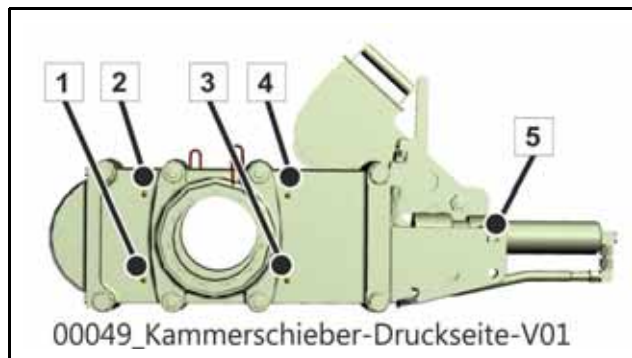
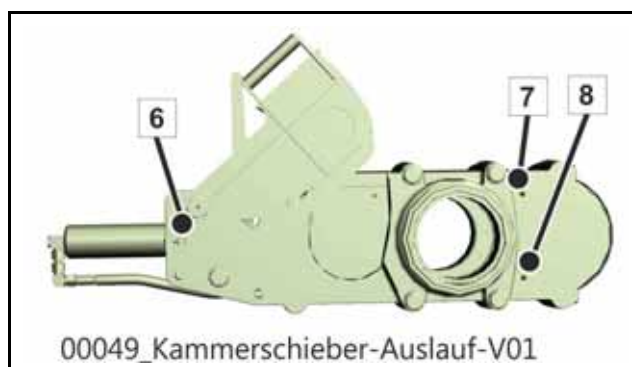

Fig. 608
Fig. 609
- Lubricate all grease nipples (pos. 1-8) (**Fig. 608**) (**Fig. 609**) on the chamber valve.